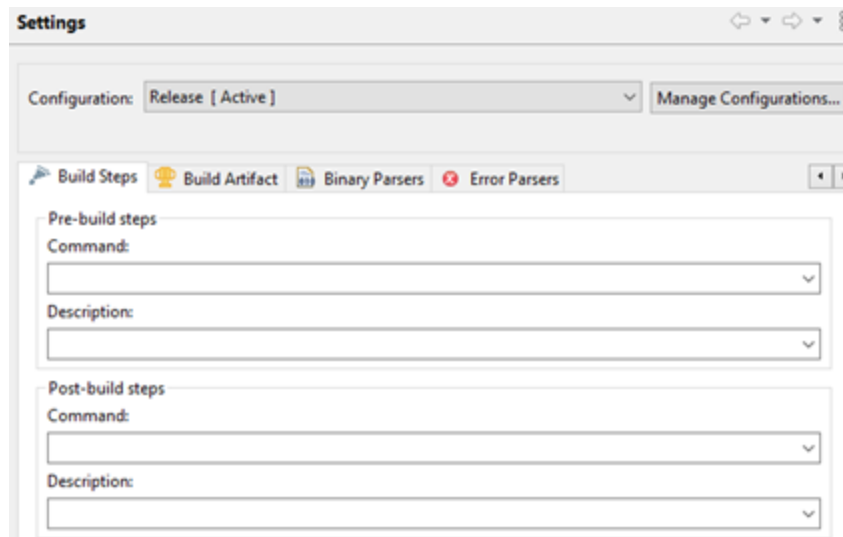

Figure 22. Deleting Command in Post-Build Steps
- d. Delete **Command** in **Post-build steps** (see the figure "Deleting Command in Post-Build Steps" (Figure 22)).